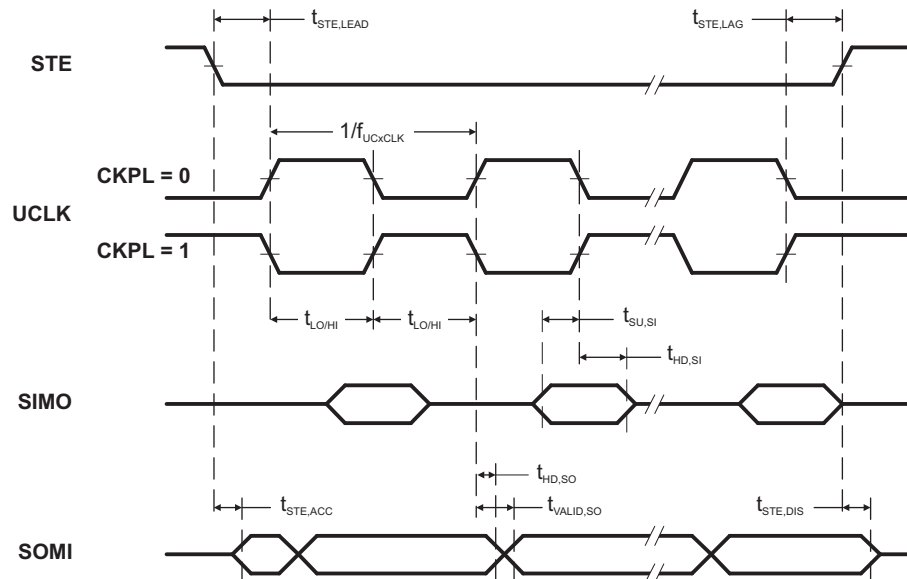

Figure 15. SPI Slave Mode, CKPH = 0
(see Note (1), Figure 15 and Figure 16)